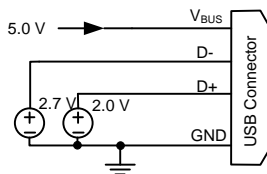
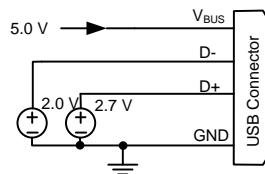
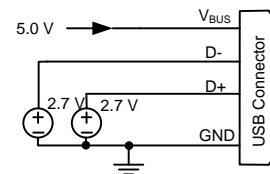

Figure 9. Divider 1 DCP
Figure 10. Divider 2 DCP
Figure 11. Divider 3 DCP
There are three charging schemes for divider DCP. They are named after Divider 1, Divider 2, and Divider 3 DCPs that are shown in Figure 9, Figure 10, and Figure 11. The Divider 1 charging scheme is used for 5-W adapters, and applies 2 V to the D+ line and 2.7 V to the D- data line. The Divider 2 charging scheme is used for 10-W adapters, and applies 2.7 V on the D+ line and 2 V is applied on the D- line. The Divider 3 charging scheme is used for 12-W adapters, and applies 2.7V on D+ and D- lines.
- Added Figure 11 10